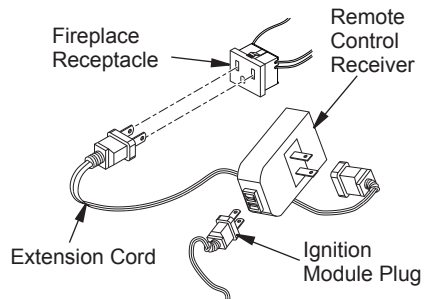

Figure 40 - Installing the WRC Remote Receiver
- The WRC model receiver does not require a battery. The receiver can be installed by first plugging the short extension cord into the fireplace receptacle. Then plug the receiver unit into the extension cord. Finally plug the ignition module plug into the receiver unit (see Figure 40).